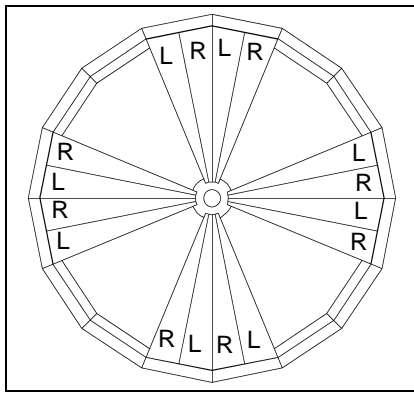
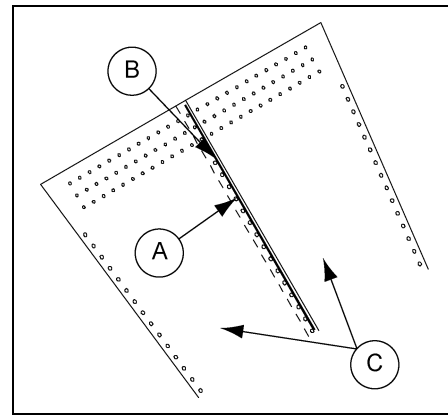
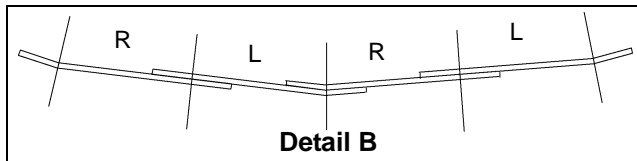
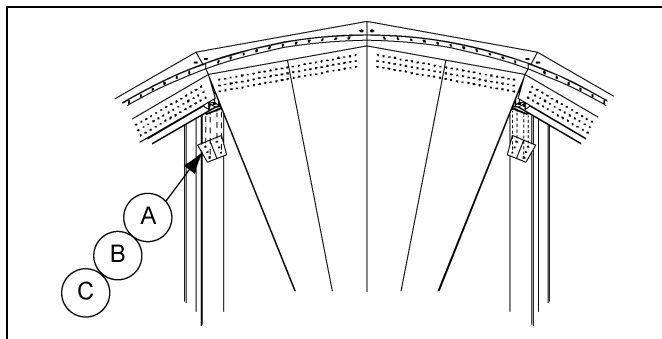

Figure 5D Hopper Panel and Discharge Collar Assembly
Figure 5G Detail A - Caulking Detail
Figure 5E Lap Detail (Viewed from Inside of Bin)
Figure 5F Hopper Panel Detail
Begin assembling the hopper bottom by attaching a right and left pair or pairs of hopper panels to the compression angle ring ($3/8" \times 1"$ bin bolt (S-7487)) and discharge collar ($1/2" \times 1"$ hardware (S-4492)) at four (4) opposing points as shown in Figure 5D. Caulking is required on the vertical seams of the lapped hopper panels (Refer to Figure 5G). Splice plates which join the compression angle segments on the back side may be installed following a pair of hopper panels. Refer to Figure 5F. Complete this assembly by laying in alternate right and left panels moving around in one direction and lapping all sheets the same way, See Figure 5E. Do not tighten bolts until all hopper panels are attached to each other, the compression angle, splice plates and discharge collar.